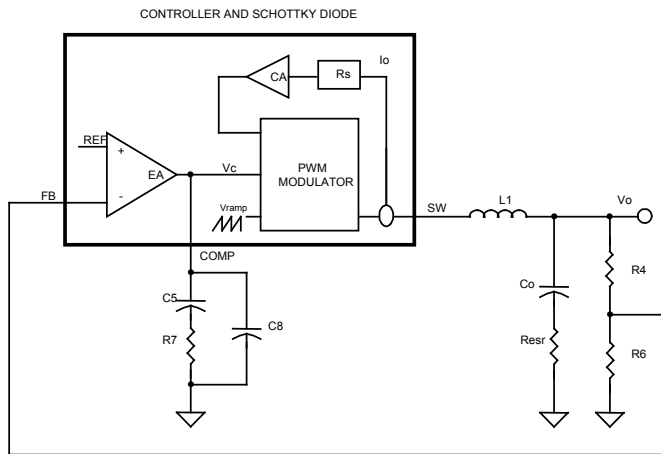

Figure 7. Block diagram of control loops
The goal of compensation is to shape the frequency response of the converter so as to achieve high DC accuracy and fast transient response while maintaining loop stability (see Figure 7).
The block diagram in Figure 7 shows the control loops of a buck converter with the SC4524C. The inner loop (current loop) consists of a current sensing resistor ( $R_s=5.5\text{m}\Omega$ ) and a current amplifier (CA) with gain ( $G_{CA}=18.5$ ). The outer loop (voltage loop) consists of an error amplifier (EA), a PWM modulator, and a LC filter.
For a converter with switching frequency  $F_{SW}$ , output inductance  $L_1$ , output capacitance  $C_o$  and loading  $R$ , the control ( $V_c$ ) to output ( $V_o$ ) transfer function in Figure 7 is given by: